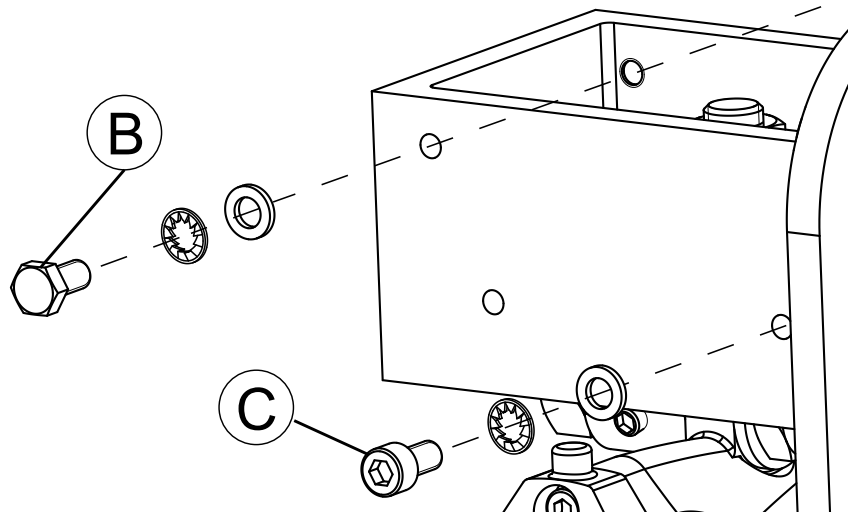

Figure 9: Installation view 2
(2) Mount 2 hexagon screws (M6x12)(B), 2 washers M6 and 2 lock washers M6 to the mounting bracket but do not tighten.
(3) Mount 2 socket cap screws (M6x12)(C), 2 washers M6 and 2 lock washers M6 to the mounting bracket but do not tighten. Refer to Figure 9: Installation view 2.